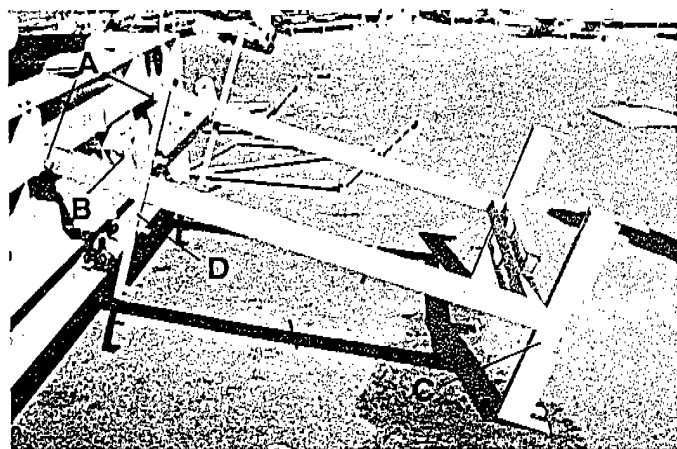

Fig. 88
- a. The rack is secured to the two sets of double ears at the back end of the trailer frame (a). Position the rack so the double ears (b) on the rack legs are on top. Slide the rack legs between the double ears on the trailer frame. *Pin and Snap Key in Place.* (Fig. 88)
- c. The rack is made up of upper racking bars (c) and lower racking bars (d) that will support the assembly parts for the platform steps in storage. (Refer to Fig. 88)